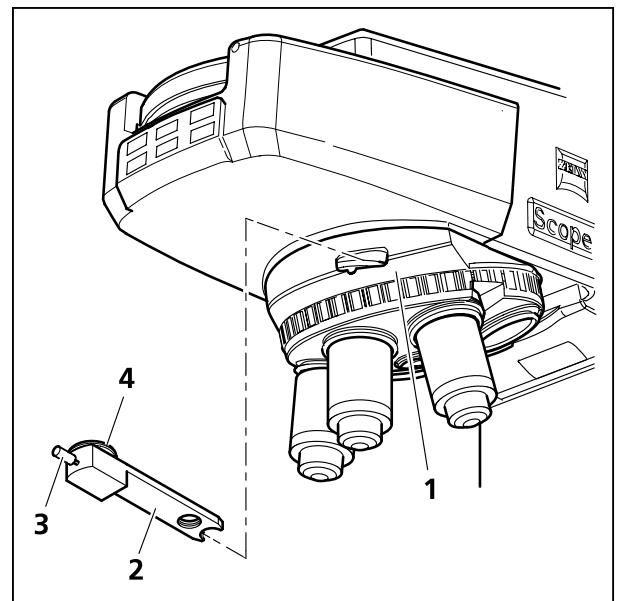
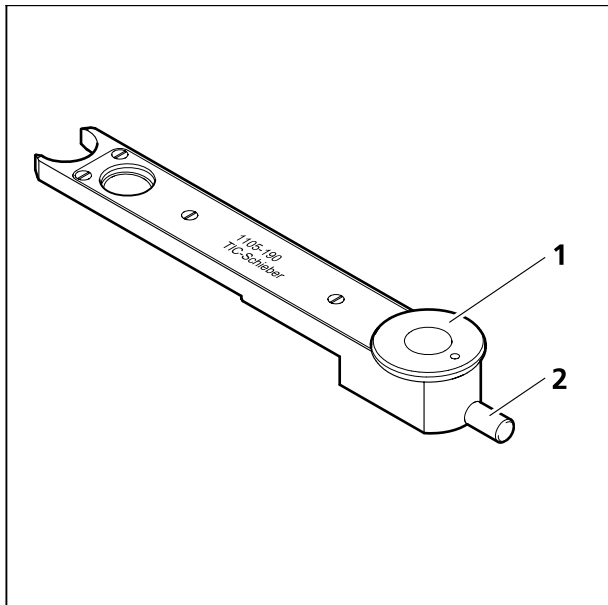
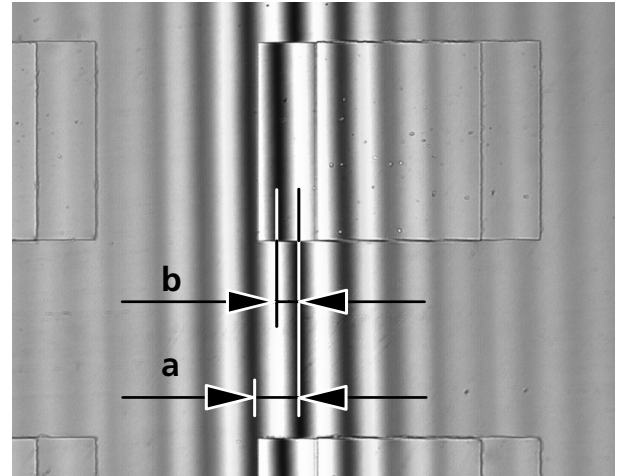

Fig. 4-12 Compensator compartment 6x20 with C-DIC slider 6x20
Fig. 4-13 TIC slider 6x20
Fig. 4-14 Interference stripes
(3) Reflected light DIC, preferably for objectives Epiplan 5x to 100x and LD-Epiplan 10x to 100x
(4) Reflected light C-DIC
- Slide the C-DIC slider (Fig. 4-12/2) in the compensator compartment 6x20 (Fig. 4-12/1).
- Put the sample down, focus and turn the control knob (Fig. 4-12/4) on the C-DIC slider so the structure of interest is visible with maximum contrast. No further stage rotation is necessary.
- The contrast can be optimized by adjusting the control knob (Fig. 4-12/3) on the C-DIC slider.
- Slide TIC slider 6x20 in the compensator compartment 6x20 (Fig. 4-12/1). You will see chromatic interference stripes in the field of view. Using the control knob (Fig. 4-13/2) of the TIC slider, move the black interference stripe by sight to the middle of the field of view.
- In order to choose the structure to be measured, turn the knob (Fig. 4-13/1) on the TIC slider until the interference stripes are vertical to the direction in which the object is broken down (see Fig. 4-14). The interference stripes can be shifted with the aid of the control button (Fig. 4-13/2).
The values a and b (see Fig. 4-14) are determined with the aid of the eyepiece graticule micrometer or with the micrometer eyepiece.